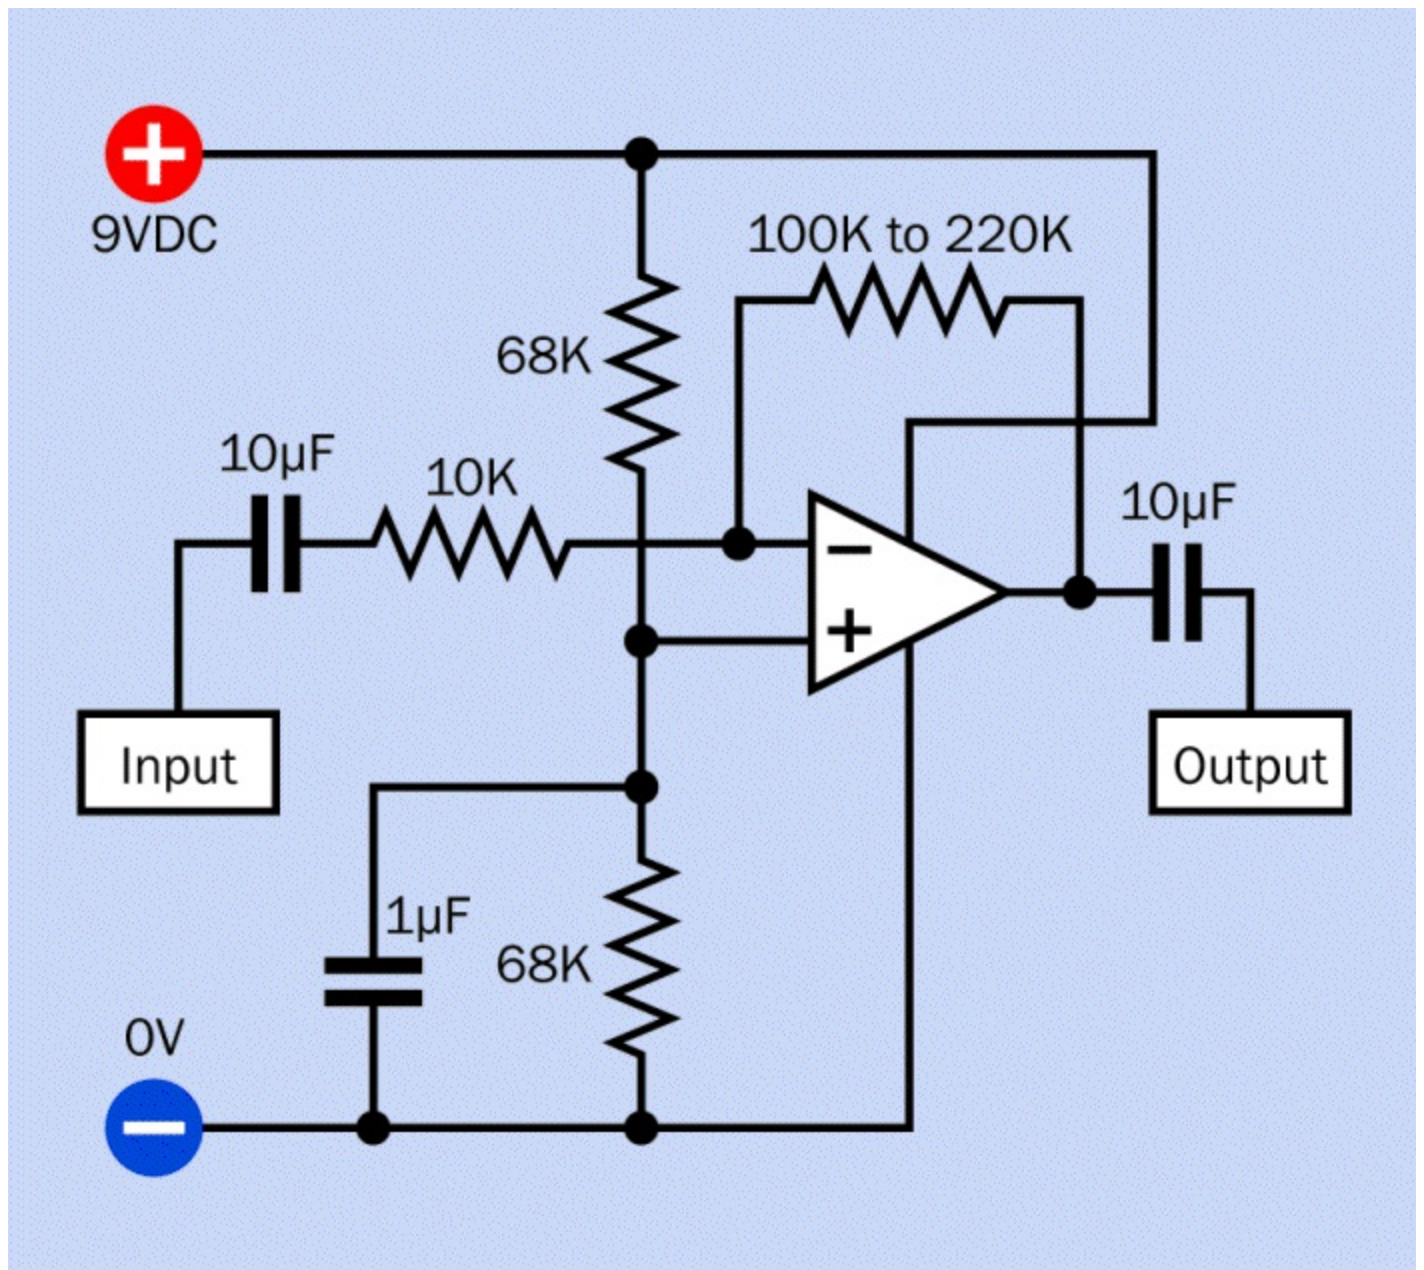

Figure 11-16. An op-amp configured for audio amplification with a single-voltage power supply and the signal connected with the inverting input.
**Figure 11-16** shows a circuit that makes similar compromises, this time for amplification from the inverting input, using a single-voltage power supply. Compare this with the theoretical version in **Figure 11-13**.